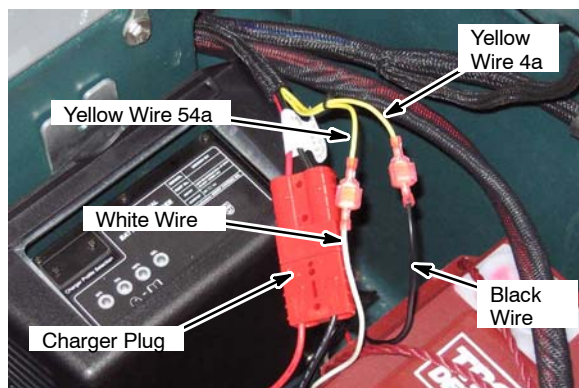

Fig. 2
2. Open the battery compartment and disconnect the on-board charger connector and harness wires (Figure 2).